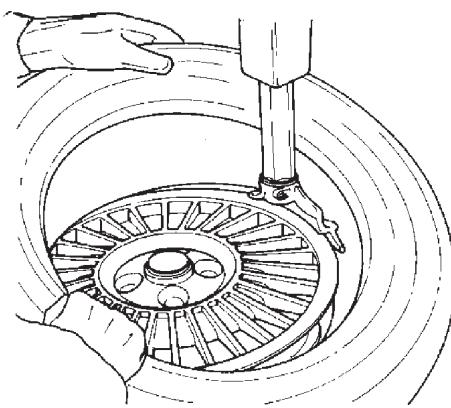

Fig.4.2-3
B. Lock the rim to the turntable and rotate it so that the valve is at the 2 o'clock position. Place the tire to be mounted on the rim. Swing the mount/demount arm in so that the mount/demount head is in the working position. (Fig. 4.2-3) Engage the lower bead OVER the mount/demount head and UNDER the mounting finger of the mount/demount head (Fig.20). Turn the wheel clockwise (right pedal down) while simultaneously pushing the tire down into the drop center, opposite to the mount/demount head.